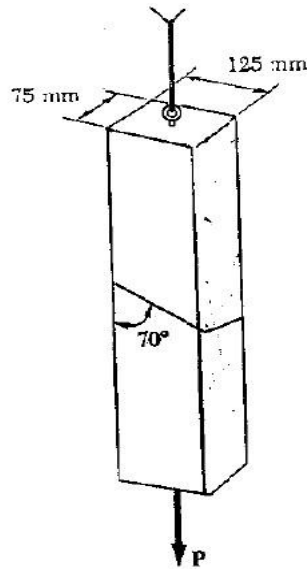

Fig 1
- a. Two wooden members of uniform cross section are joined by the simple scarf splice shown in Fig1. Knowing that the maximum allowable tensile stress in the glued splice is 500 kPa, determine :(i) the largest load P that can be safely supported. [5]